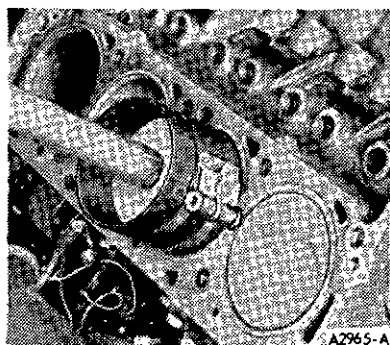

FIG. 56 Installing Piston Assy.
4. Install piston ring compressor on piston and push in with hammer handle until it is slightly below top of cylinder (Figure 56). Be sure to guide connecting rods while tapping them into position to avoid damaging crankshaft journals. **Install piston with indentation notch in piston head toward front of engine.**